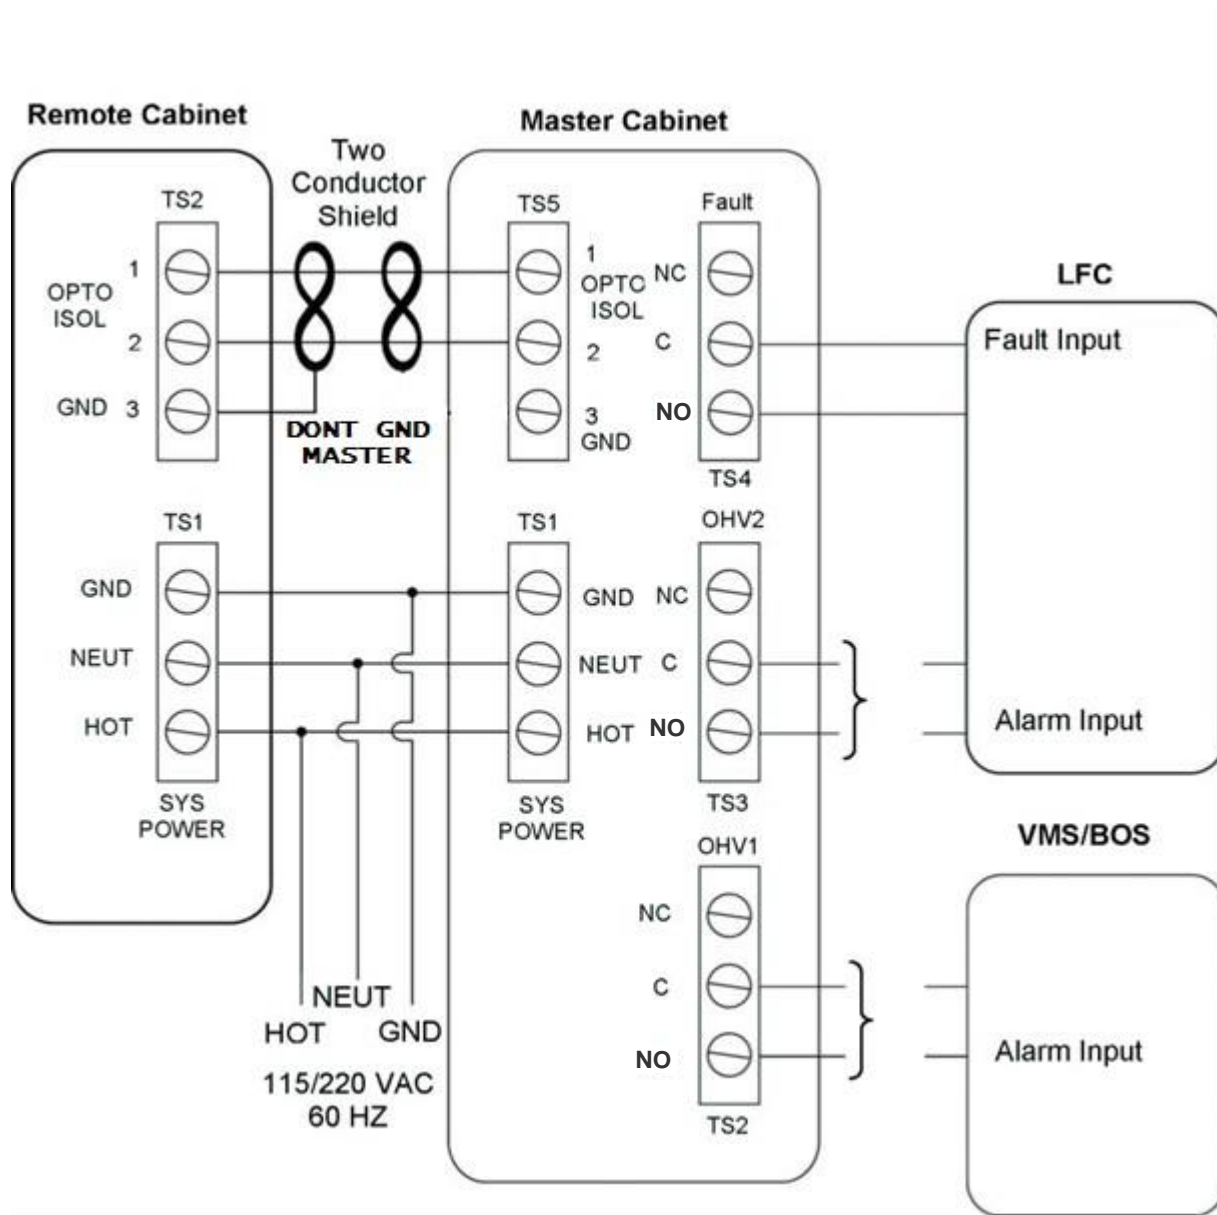
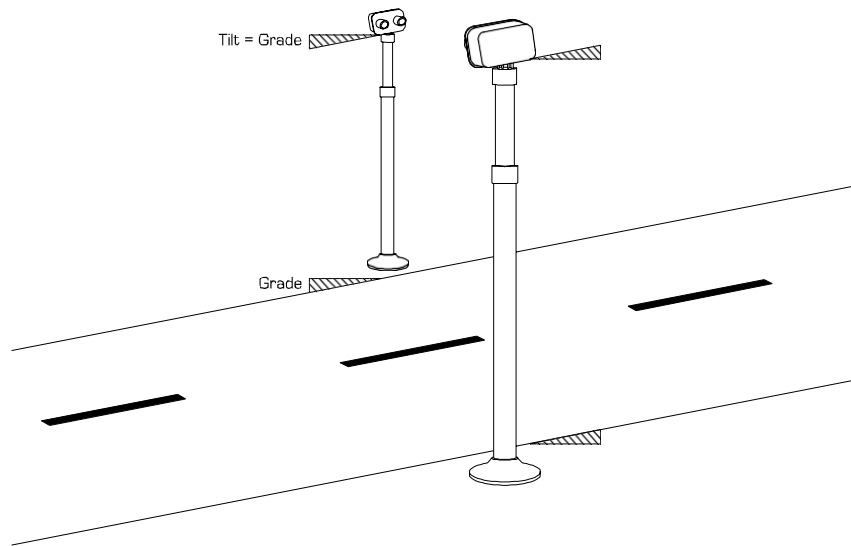
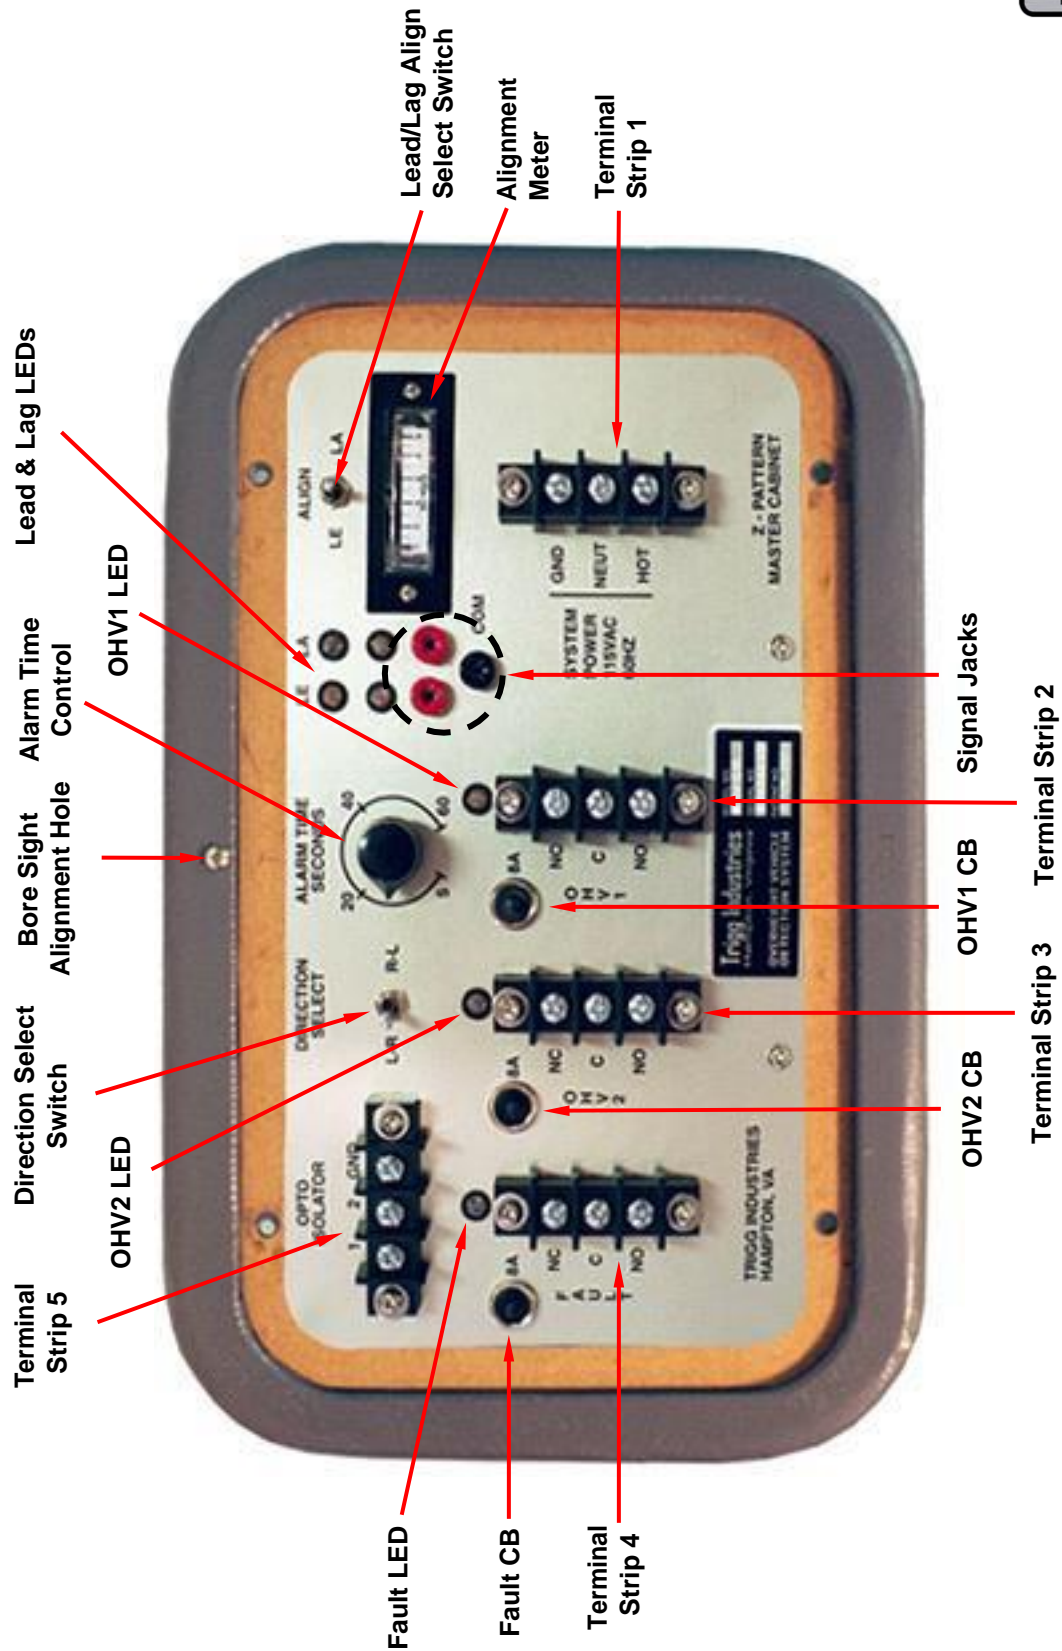
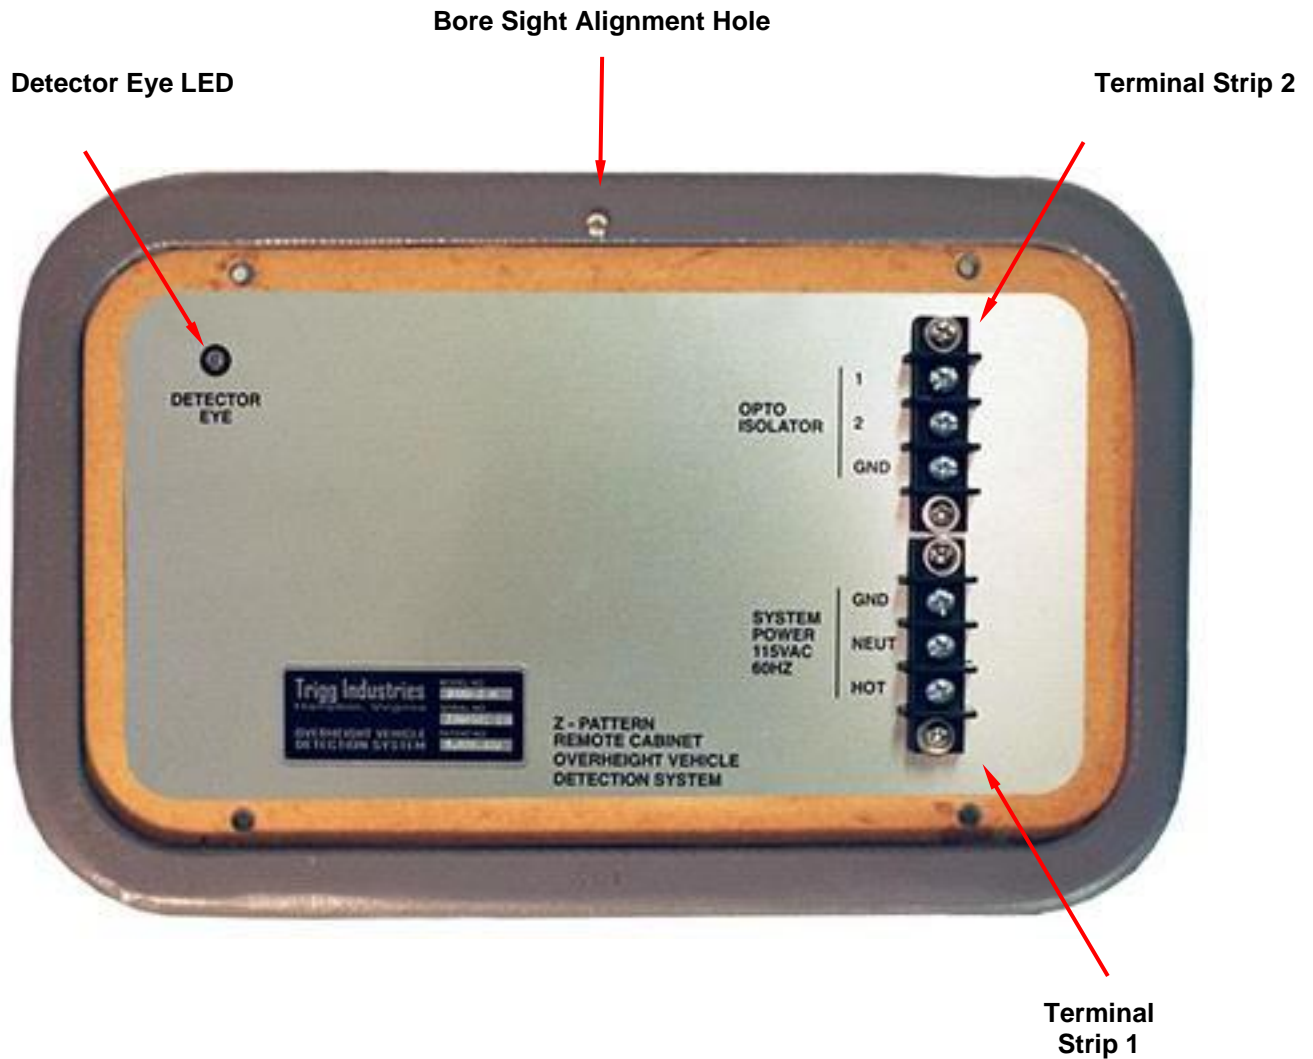

Figure 11: Wiring Diagram
Figure 13: View Across Roadway
Figure 14: Master Cabinet Control Panel
Figure 15: Remote Cabinet Control Panel
NOTE: Use **Figure 10:** Wiring diagram, **Figure 13:** Master Cabinet Control Panel, and **Figure 14:** Remote Cabinet Control Panel for reference in the next two steps.
2. Tilt the Remote and Master cabinets to make the plane described by parallel lines of sight between the Remote and Master eyes parallel to the roadway under the lines of sight in the direction of interest (see **Figure 13:** View Across Roadway).
Refer to **Figure 14**: Master Cabinet Control Panel and **Figure 15**: Remote Cabinet Control Panel for the following procedure.
The following procedures establish that the OHVDS is operating properly once installed and connected. Refer to **Figure 14: Master Cabinet Control Panel**, and **Figure 15: Remote Cabinet Control Panel** for the following:
NOTE: Refer to **Figure 11: Wiring Diagram**, **Figure 14: Master Cabinet Control Panel**, and **Figure 15: Remote Cabinet Control Panel** for the following step.